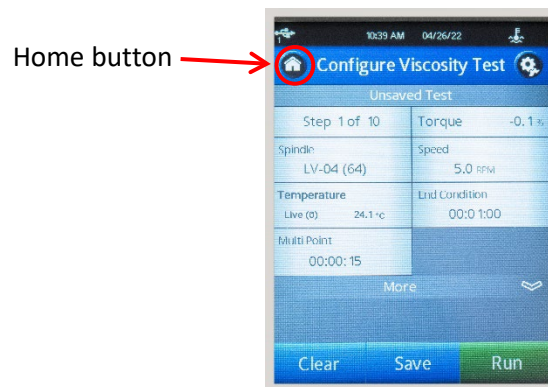

Figure 21: Home Button
8. Next, the **Configure Viscosity Test** screen appears. Press the **Home** button on the top left corner to access the Main Menu. See Figure 21.